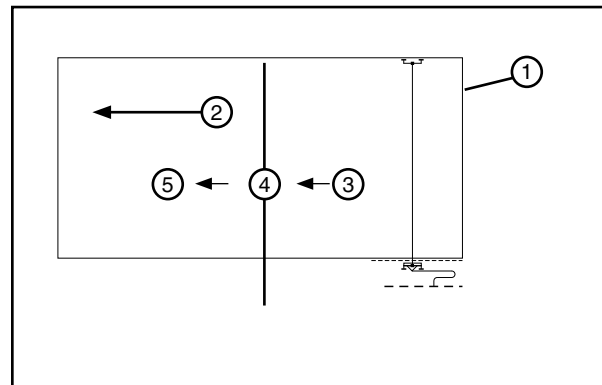

Figure 39-2 1. Field 2. Direction of Travel 3. Wet 4. STOP 5. Dry
3. The system direction is reversed, the percentage timer is set to the desired application rate and the system is run wet (irrigating) to the middle of the field. See Figure 39-2.
4. The system is stopped, the percentage timer is set to 100% and the system is run dry to the original end of the field. See Figure 39-2.